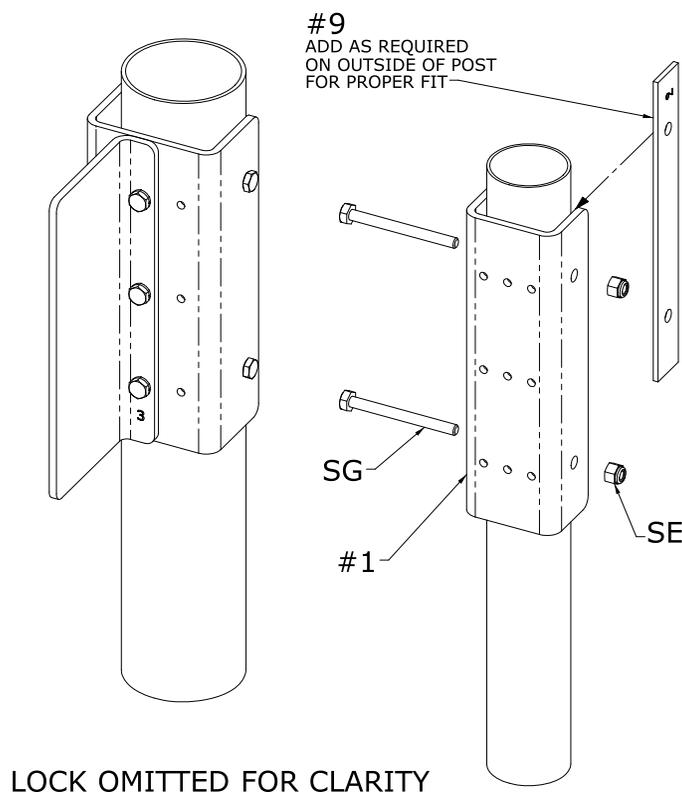

**FIG 6B**
**Magnalock®** - Position the lock template onto Bracket #3, mark only the four corner holes for the Magnalock. Carefully center punch and drill all four holes with a 13/64" bit and tap for 1/4-20 machine screws. Install the lock using the hardware as shown in **FIG 6B**. Complete installation of the Magnalock lock by referring to **FIG 6B** and following the installation guide included with the Magnalock.